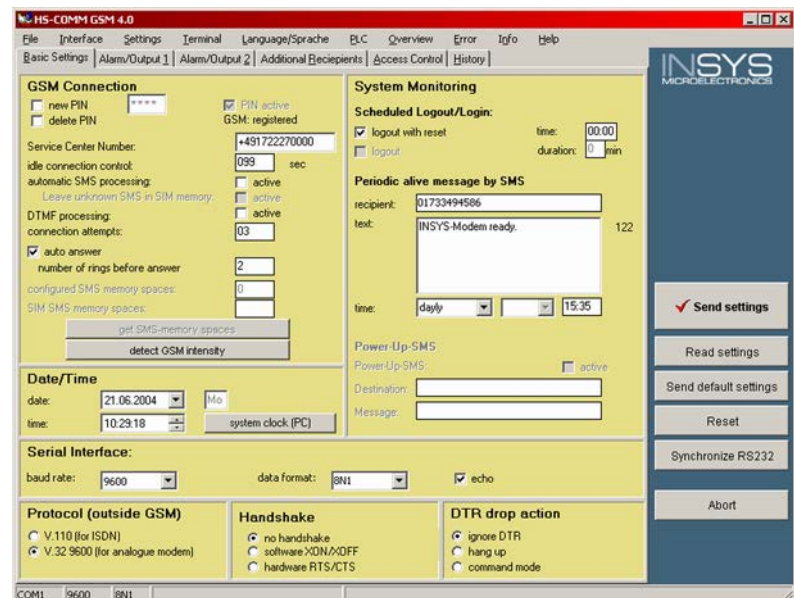

Fig. 199: GSM modem - basic settings
- ➔ Set up the modem as shown in ( Fig. 199) on the “Basic Settings” tab.